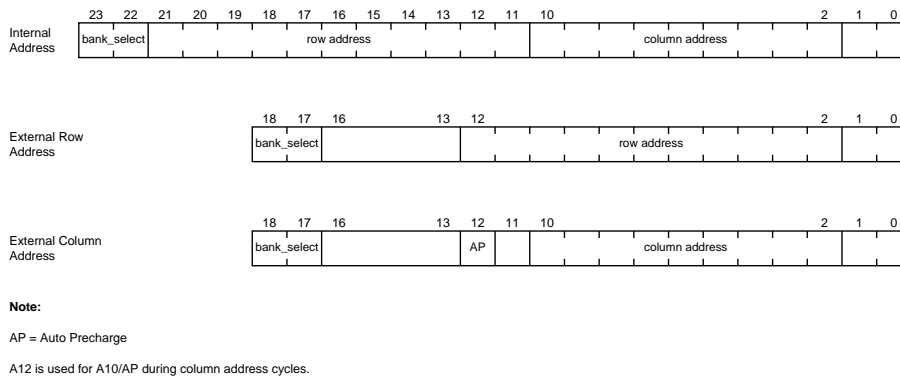

Figure 4.11: SDRAM address output example
- Example: Address output in 32-bit mode during RAS and CAS cycles (Figure 4.11).